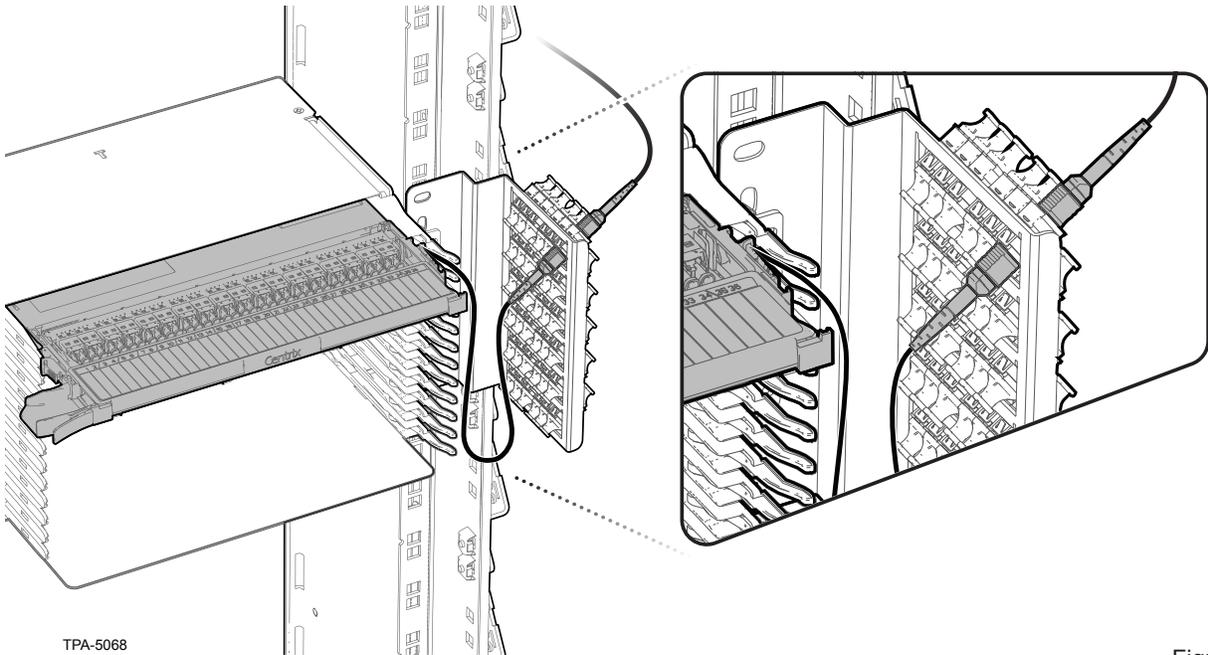

Figure 11
**Step 10:** Mate connectors into the adapters in the order the incoming cables were mated (Figure 11).